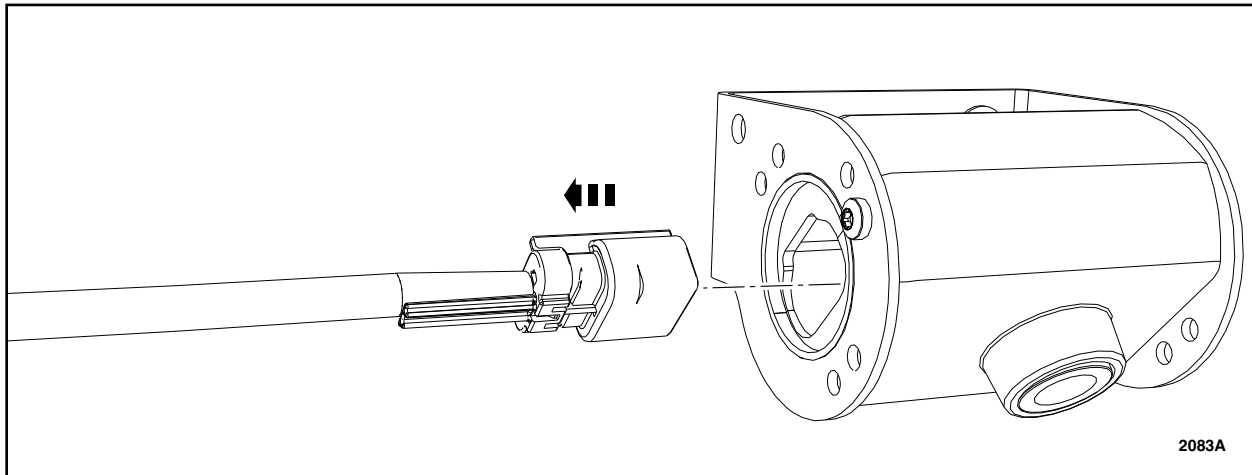

FIGURE 14
1. Disconnect the cameras' electrical connector. See Figure 14.
7. Connect the cameras' electrical connector. See Figure 14.